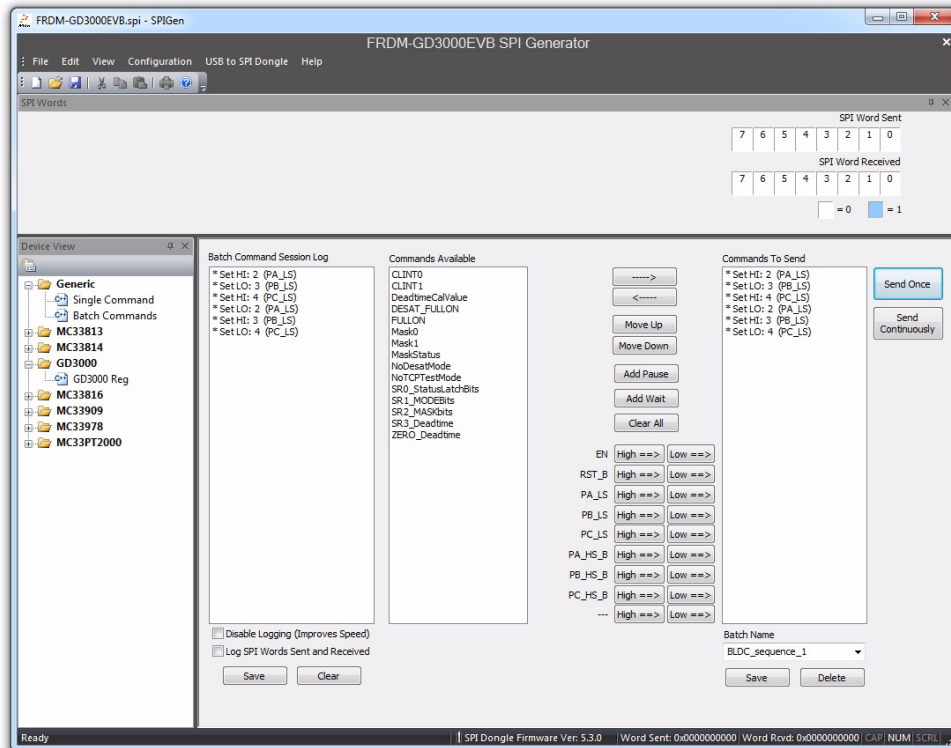
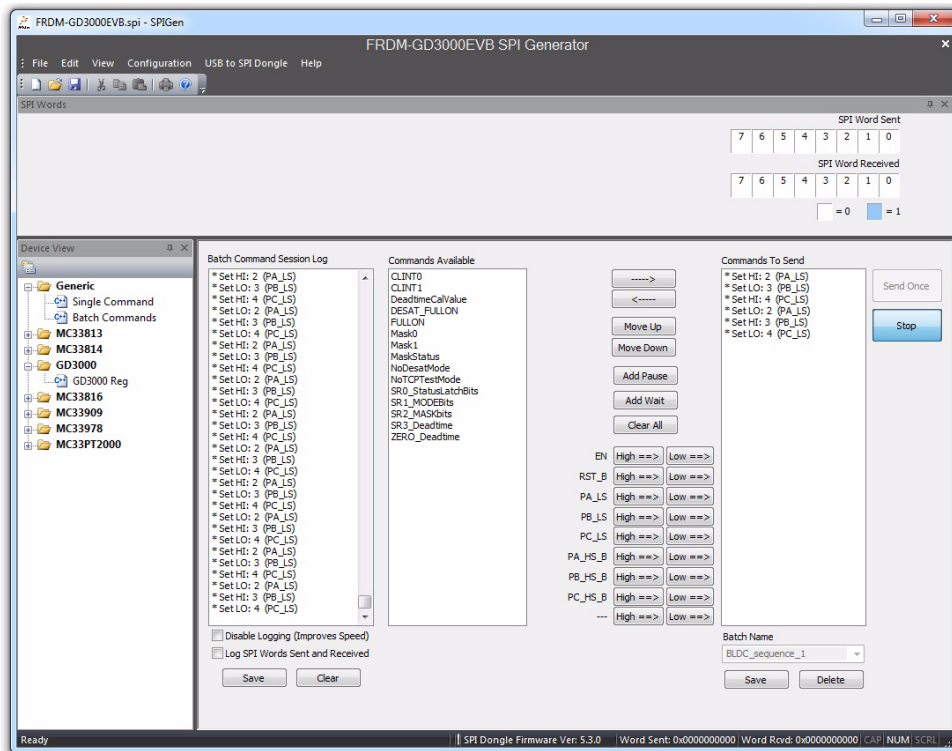

Figure 22. SPIGen stopping single batch commands
Figure 23. SPIGen stopping batch commands
- The **Send Once** operation stops automatically when the batch commands have been sent once (Figure 22). If **Send Continuously** is selected, the batch command sequence must be stopped manually (Figure 23).